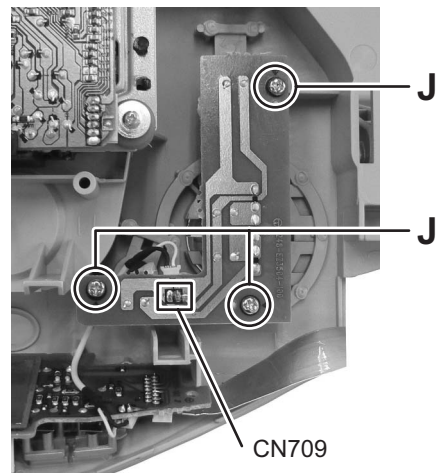

Fig.13
3.1.8 Removing the Power switch board assembly (See Fig.13)